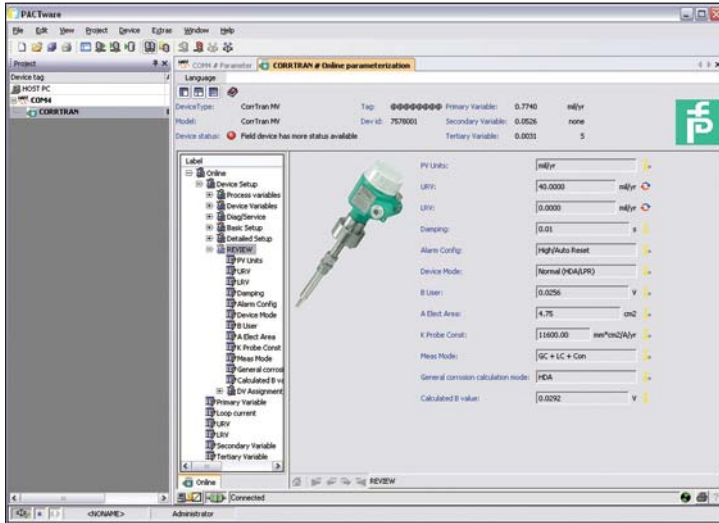

Figure 42. Review (read only)
- Right click and select 'Additional Functions' > 'Process Trend' from the toolbar. Your screen should appear as shown in Figure 42.